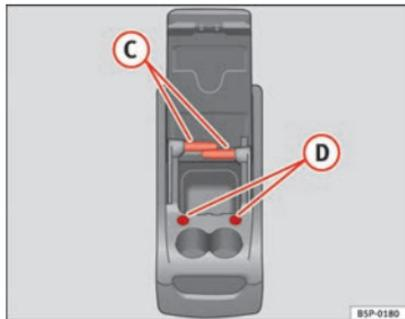

Fig. 106 Mobile storage compartment. Functions
To use the table (C) ⇒ Fig. 106, it must be removed from its compartment in the side of the mobile storage compartment and fitted into slot (D) ⇒ Fig. 106 on the front section of the mobile storage compartment.